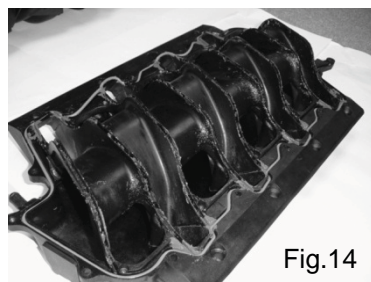

Fig.14
Your new FAST™ LSX™ Manifold is shipped with the inner piece sealed and pre-assembled to lower. The upper is loosely attached with (14) M6 bolts. Remove bolts and upper shell. Inspect cord seal to ensure it is still in place in perimeter groove and runner grooves as shown (Fig.14), and re-assemble upper shell using the (6) shorter bolts.